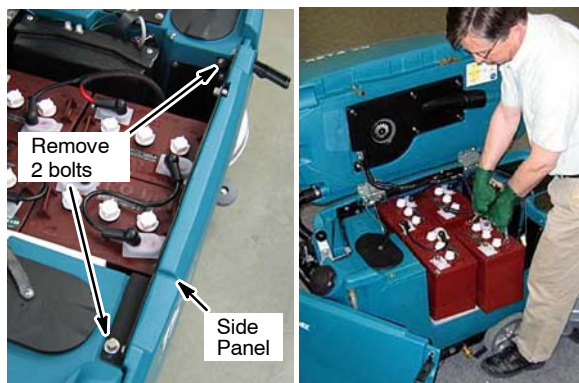

Fig. 2
4. Remove the batteries from machine (Figure 2).